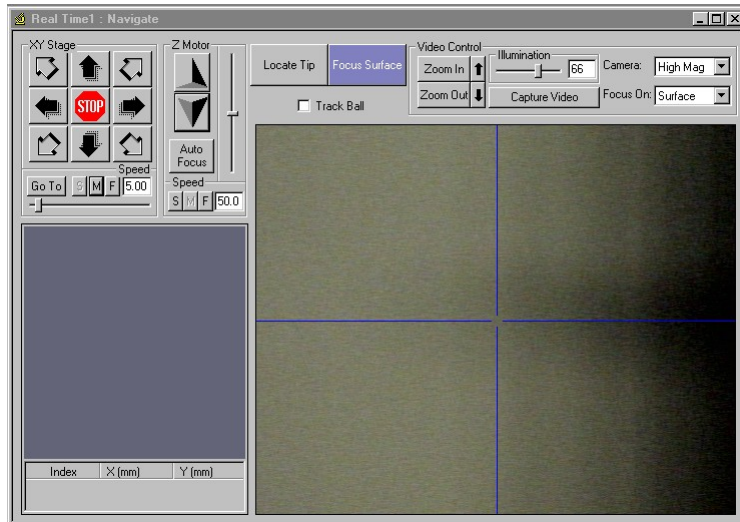

Figure 13: the navigate window.
- the “navigate” window is a very important part of the software, it is the interface between the microscope and the user when the tip is not engaged (Figure 13). It will be described in details later.